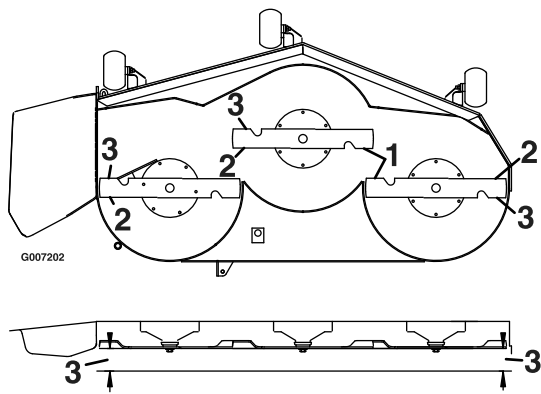

Figure 58
4. Measure between the outside cutting edges and the flat surface (Figure 58).